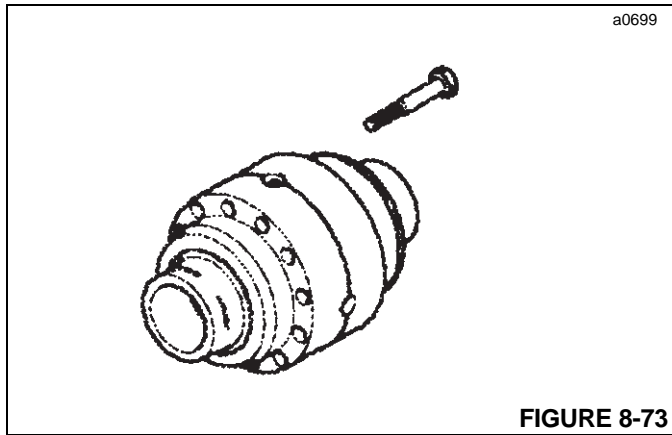

FIGURE 8-73
3. Disassemble the components (Figure 8-73). Check for proper operation and for any damage or wear to the components. Remove the bearings from the differential housing halves using a suitable puller.